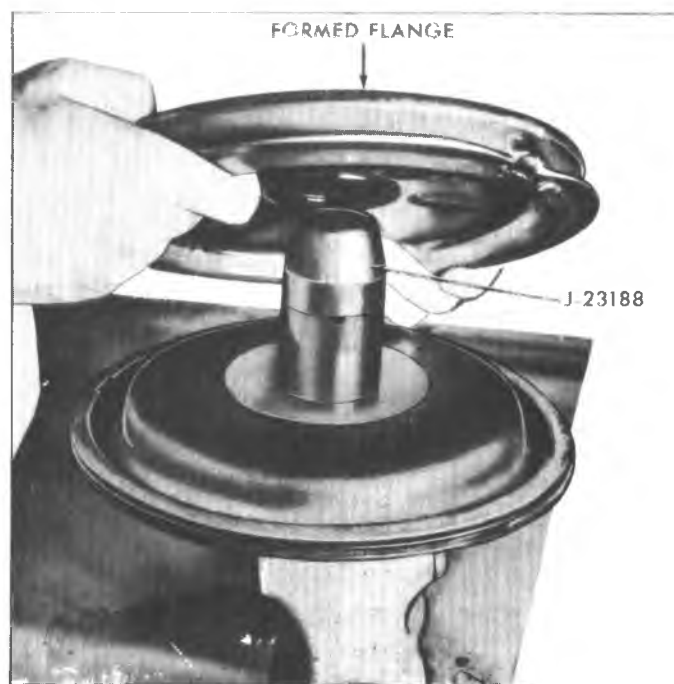

Fig. 13B--Positioning Housing Divider Over Secondary Bearing Protector Tool J-23188
28. Position secondary Bearing Protector Tool J-23188 on the threaded end of the secondary power piston (fig. 13B).